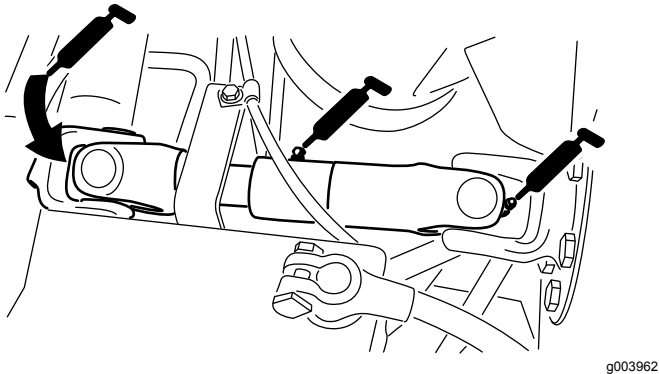

Figure 58
- Pump driveshaft U-joint (3)—Figure 58